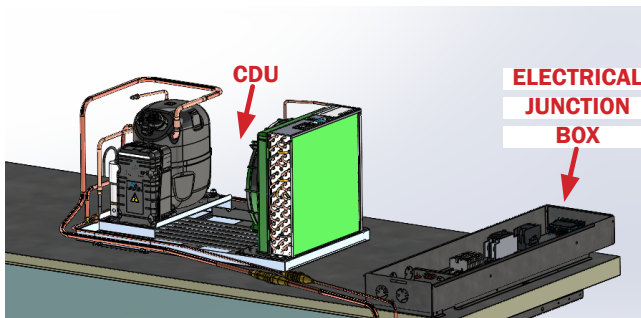

Fig. 60 Rear view of electrical junction box location
5. Place the junction box on the canopy to the left of the condensing unit, feeding the harnesses through the bottom-rear of the box. (Fig. 60).